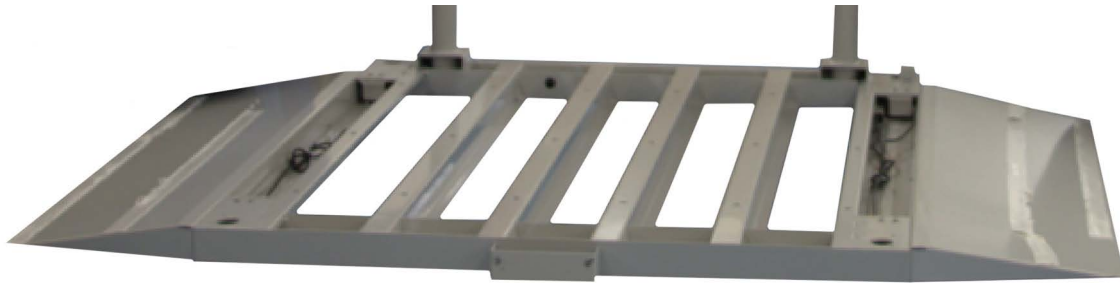

Figure 6. Prepared Scale for Trimming
8. Reinstall the ramp(s) to the base (see Figure 6).